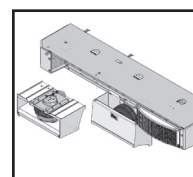

Figure 10.
5. Once the cassette has been removed from the unit cooler, the cassette can be stored on the unit by using the service clip feature. (Figure 10)